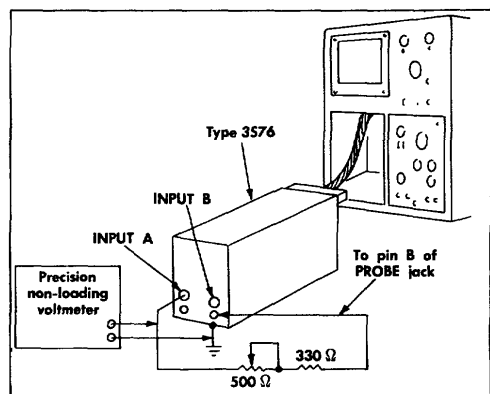

Fig. 6-5. Circuit used to set Type 3S76 gain.
1. Assemble the system shown in Fig. 6-5. Adjust the 500-ohm variable resistor so exactly 1 volt appears at the Type 3S76 channel A INPUT connector.
Leave the system of Fig. 6-5 connected to the Type 3S76.